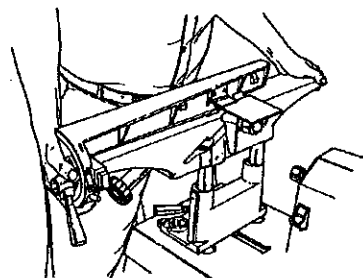

Fig.C-1
4. Insert the Jointer tubes into the tall holes of the Power Station carriage (21), with the Jointer's drive shaft pointed toward the Power Station headstock. See Fig.C-1. You may need to adjust the Jointer's tubes to fit them in the tube holes.